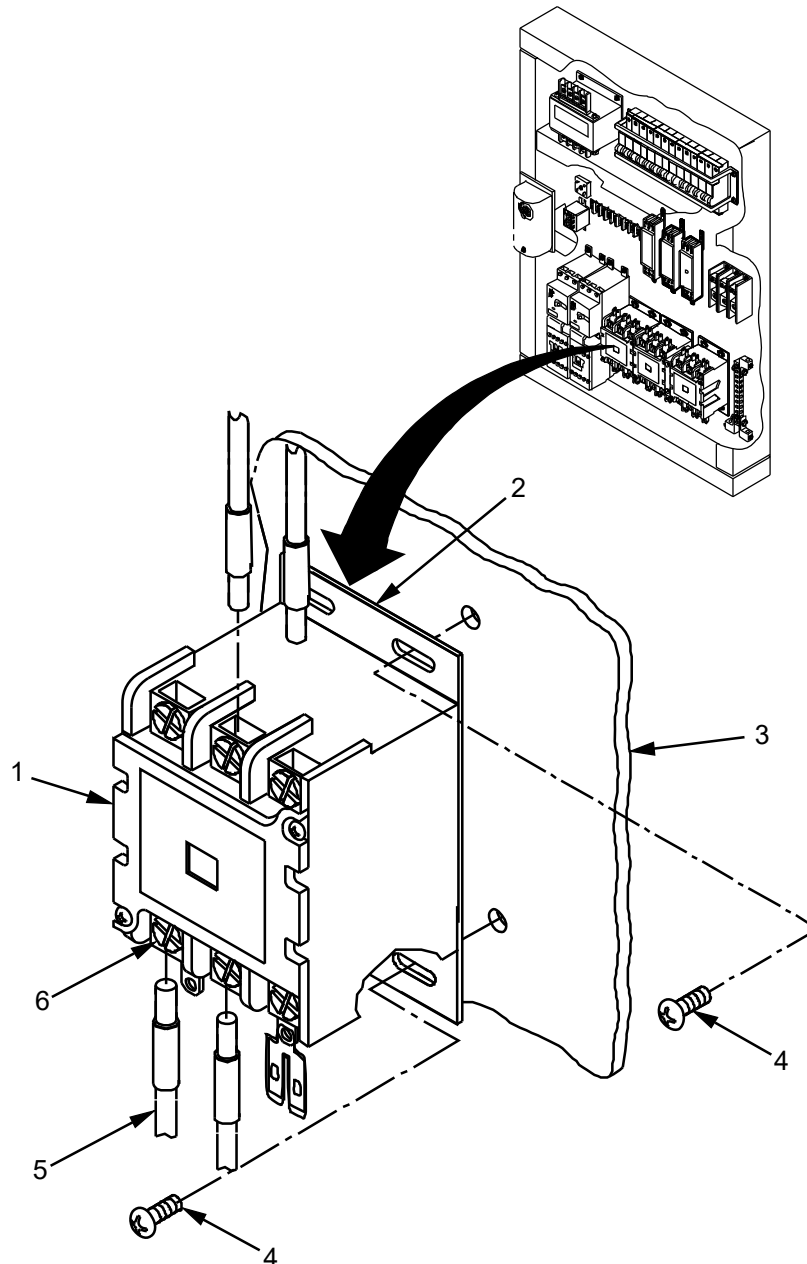

Figure 1. Contactor Replace.
3. Verify that all electrical wires (Figure 1, Item 5) connected to contactor being replaced are properly identified.
4. Loosen but do not remove terminal screws (Figure 1, Item 6) securing all electrical wires (Figure 1, Item 5) to contactor (Figure 1, Item 1) being replaced. Remove electrical wires (Figure 1, Item 5) from contactor (Figure 1, Item 1).
5. Remove and retain four screws (Figure 1, Item 4) that secure bracket (Figure 1, Item 2) to control panel (Figure 1, Item 3).
6. Remove contactor (Figure 1, Item 1) from control panel (Figure 1, Item 3).
1. Install contactor (Figure 1, Item 1) onto control panel (Figure 1, Item 3).
2. Secure bracket (Figure 1, Item 2) to control panel (Figure 1, Item 3) with four screws (Figure 1, Item 4).
3. Inspect all electrical wires (Figure 1, Item 5) being connected. Ensure no physical damage is present. If necessary, repair or replace.
4. Loosen but do not remove terminal screws (Figure 1, Item 6) on contactor (Figure 1, Item 1). Install all electrical wires (Figure 1, Item 5) and tighten terminal screws (Figure 1, Item 6).